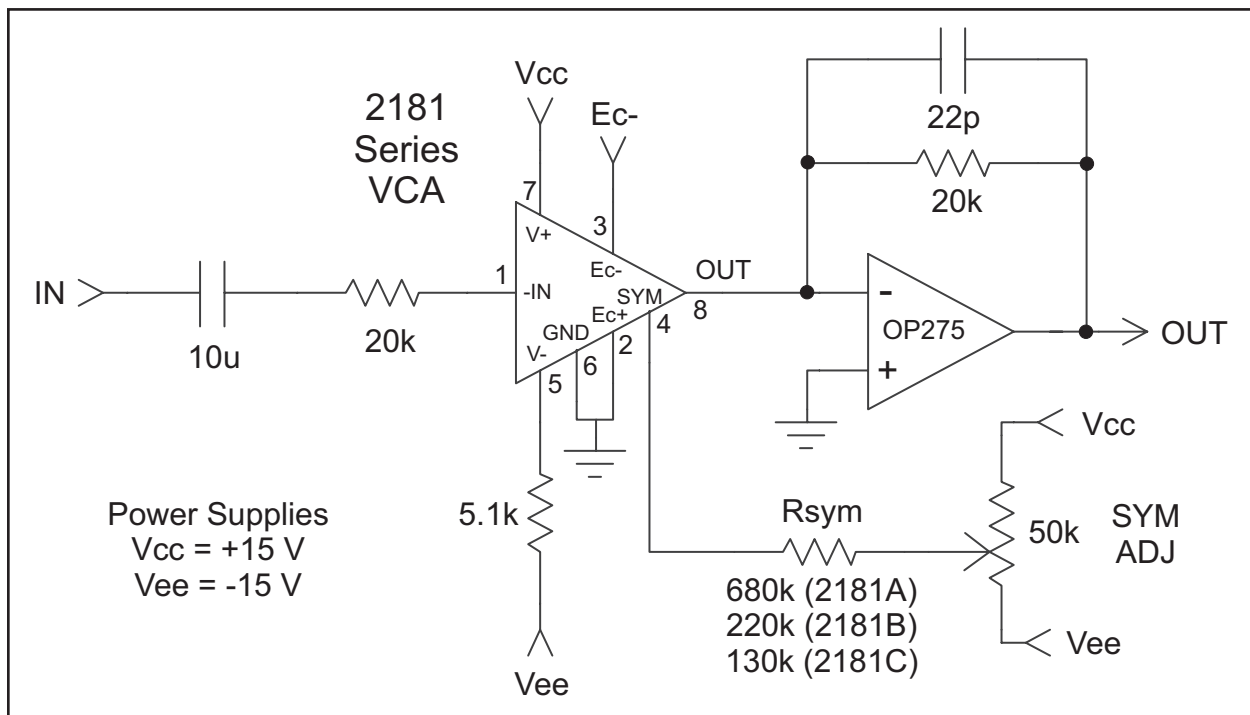
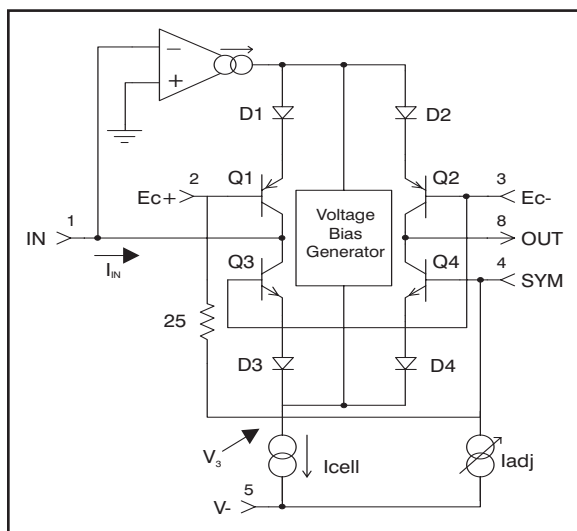
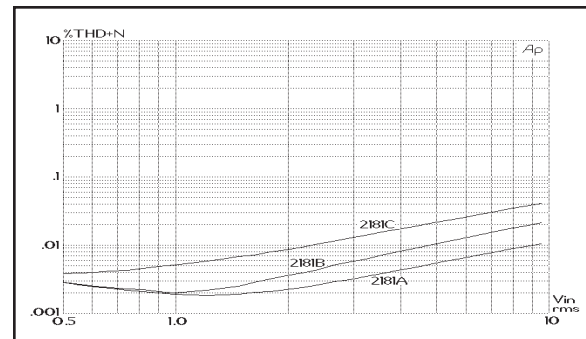

Figure 2. Typical Application Circuit
Figure 5. Simplified Internal Circuit Diagram
Figure 10. 1 kHz THD+Noise Vs. Input Level, 0 dB Gain
2. Unless otherwise noted, TA = 25°C, VC = +15V, VEE = -15V. Test circuit is as shown in Figure 2. SYM ADJ is adjusted for minimum THD at 1 V, 1 kHz, EC- = -EC+ = 0 V
Figure 5 presents a considerably simplified internal circuit diagram of the IC. The ac input signal current flows in pin1, the input pin. An internal operational transconductance amplifier (OTA) works to maintain pin 1 at a virtual ground potential by driving the emitters of Q1 and (through the Voltage Bias Generator) Q3. Q3/D3 and Q1/D1 act to log the input current, producing a voltage, V3, which represents the bipolar logarithm of the input current. (The voltage at the junction of D1 and D2 is the same as V3, but shifted by four forward  $V_{be}$  drops.)
The 2181 current consumption is determined by the resistor between pin 5 (V-) and the negative supply voltage ( $V_{EE}$ ). Typically, with 15V supplies, the resistor is 5.1 k $\Omega$ , which provides approximately 2.4 mA. This current is split into two paths: 570  $\mu$ A is used for biasing the IC, and the remainder becomes Icell as shown in Figure 5. Icell is further split in two parts: about 20  $\mu$ A biases the core transistors (Q1 through Q4), the rest is available for input and output signal current.
The 2181-Series VCAs are intended to be adjusted for minimum distortion by applying a small variable offset voltage to pin 4, the SYM pin. Note that there is a 25  $\Omega$  resistor internal to the 2181 between pin 4 and pin 2. As shown in Figure 2, Page 3, the usual method of applying this offset is to use the internal 25  $\Omega$  resistor along with a
The 2181-Series VCA design, fabrication and testing ensure extremely good audio performance when used as recommended. The 2181 maintains low distortion over a wide range of gain, cut and signal levels. Figures 10 through 12 show typical distortion performance for rep-
The Input pin (pin 1) is a virtual ground with negative feedback provided internally (see Figure 5, Page 4). The input resistor (shown as 20 k $\Omega$  in Figure 2, Page 3) should be scaled to convert the available ac input voltage to a current within the linear range of the device. Generally, peak input currents should be kept under 1 mA for best distortion performance.
Refer to Figures 10 through 12 to see how distortion varies with signal level for the three parts in the 2181 Series for 0 dB, +15 dB and -15 dB gain. The circuit of Figure 2, Page 3 was used to generate these curves.
A designer may trade off noise for distortion by decreasing the 20 k $\Omega$  current-to-voltage converting resistors used at the input and output in Figure 2, Page 3. For every dB these resistor values are de-
The Output pin (pin 8) is intended to be connected to a virtual ground node, so that current flowing in it may be converted to a voltage (see Figures 2 & 15). Choose the external opamp for good audio performance. The feedback resistor should be chosen based on the desired current-to-voltage conversion constant. Since the input resistor determines the voltage-to-current conversion at the input, the familiar ratio of  $R_f/R_i$  for an inverting opamp will determine the overall voltage gain when the 2181 is set for 0 dB current gain. Since the VCA performs best at settings near unity gain, use the input and feedback resistors to provide design-center gain or loss, if necessary.
The SYM pin (pin 4) is actually a sort of additional positive-sense control port. It is provided to allow  $V_{be}$  mismatches in the core transistors to be adjusted after packaging and installation in the circuit board. It should only be used for this purpose. Connect pin 4 only to a high-impedance source as shown in Figures 2 and 15.